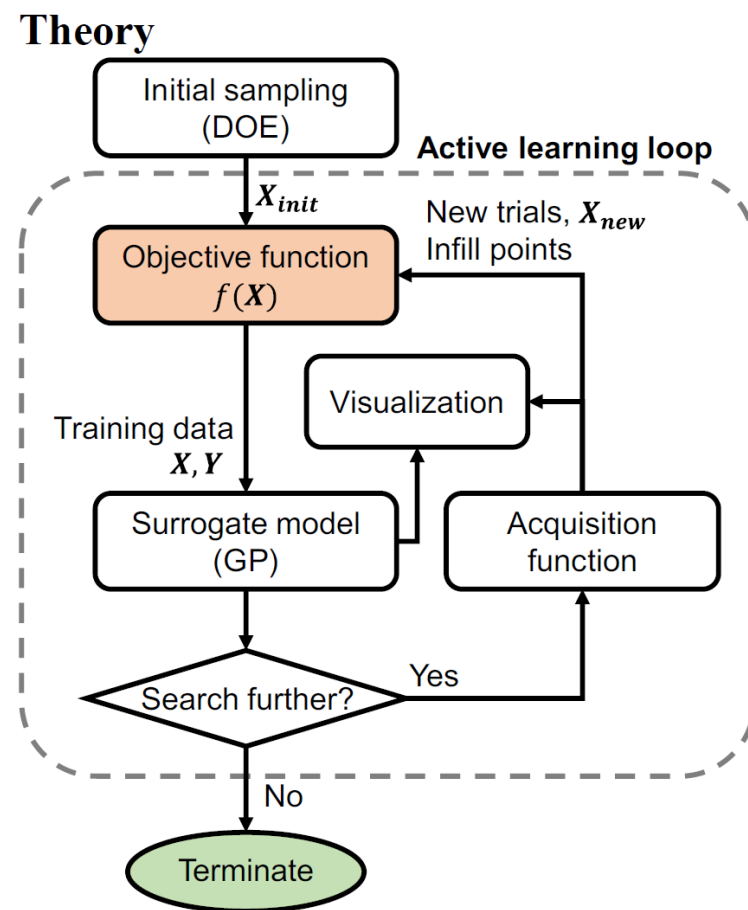

Figure 1. Overview of the active learning framework.
**Figure 1.** Schematic of the information flow in the sequential method for solving nonlinear optimization problems with an embedded system of DAEs. The flow of decision variables  $\pi$ , objective  $Z$ , state profiles  $y$ ,  $x(t)$ , and sensitivities  $\left(\frac{dy}{d\pi}\right)^T$  have been marked explicitly. Inputs to the optimization block are constants  $p$  such as the DFT-derived kinetics and thermochemistry, initial guesses of decision variables  $\pi^0$ , reactor inputs  $u$  such as the temperature, pressure, and feed composition, and experimental data  $\bar{y}$ , while the outputs are the optimal values of the decision variables  $\pi$  and model predictions  $y$ .